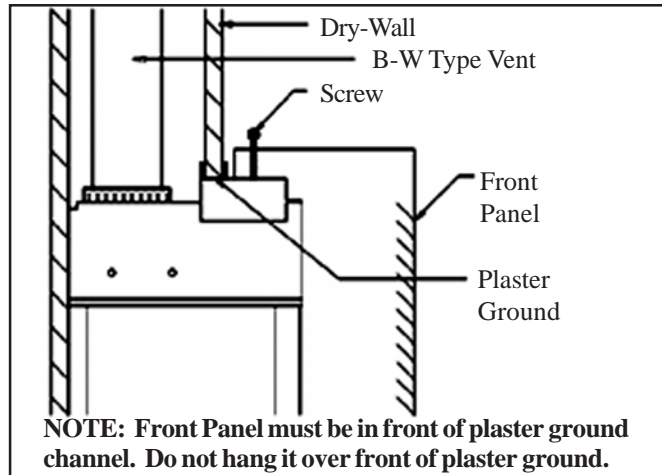

FIGURE 5A - DRY WALL
STEP 10. To fasten front panel to furnace, be sure exposed portion of header is free of debris. Place outer panel over furnace with top of panel about one inch above header and centered in opening. Keep front panel flush to finished wall and slide down until rear flange of top outer panel is wedged tight against the front of the plaster ground channel and flush with wall. **CAUTION: Do not hang front panel behind (over front lip) the plaster ground channel as this could result in excessive noise.** Open bottom door of front panel and place sheet metal screw into locking latch. Secure top of front panel to header plate with screw provided. This will hold front panel securely to wall. See Figures 5A, 5B, (See Page 8), and 5C (Page 9).